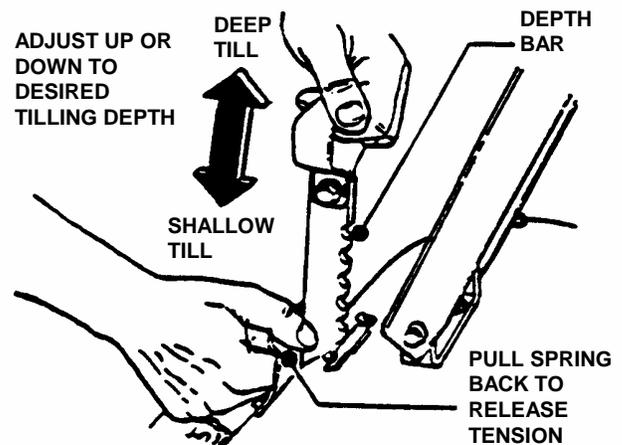

FIGURE 7
**2.6.1 FORWARD/REVERSE:** To transport the Tiller to a new tilling site using its own power, raise the tines to clear lawn and paved surfaces to prevent gouging. Release the WHEEL and TINE CONTROL BAIL and lift the rear of the Tiller to take the weight off the DEPTH BAR (see Figure 7), then push the DEPTH BAR downward into notch setting that allows the tines to clear the ground surface. Place the WHEEL and TINE SHIFT LEVER in FWD or REV. Pull the WHEEL and TINE CONTROL BAIL back against the handlebar to engage the wheel drive and transport the unit.
**STEP 2:** Set DEPTH BAR to desired position. Highest position is deepest depth. See Figure 7.